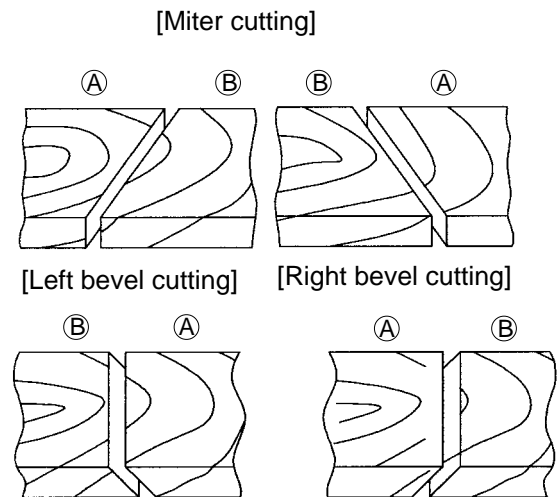

Fig. 37
In the cutting examples illustrated in Fig. 37, the cut surfaces on the sides marked (A) (cut with the grain) are better than those on the sides marked (B).